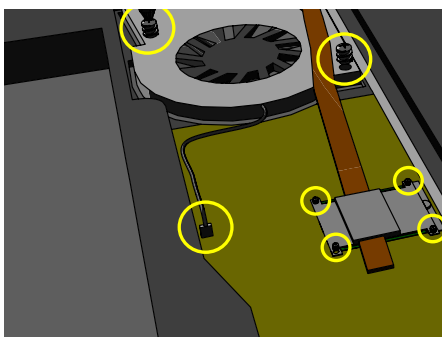

Fig.5
5. **Important Note:** Check to ensure the fan power lead is connected to the motherboard. (See Fig.5)